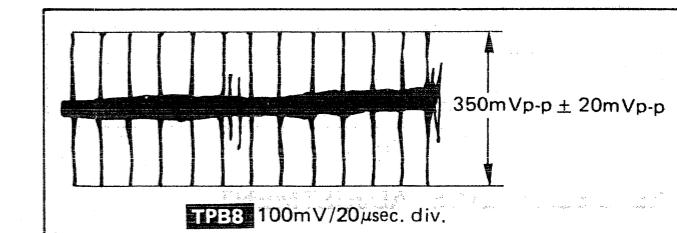

Fig. 4
4. Adjust R329 (Aperture Adj.) so that the **TPB8** becomes  $350\text{mVp-p} \pm 20\text{mVp-p}$  as shown in Fig. 4.